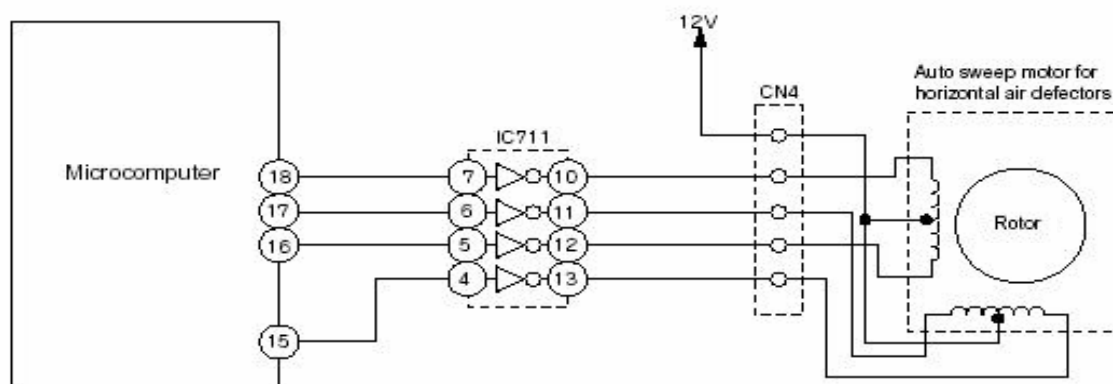
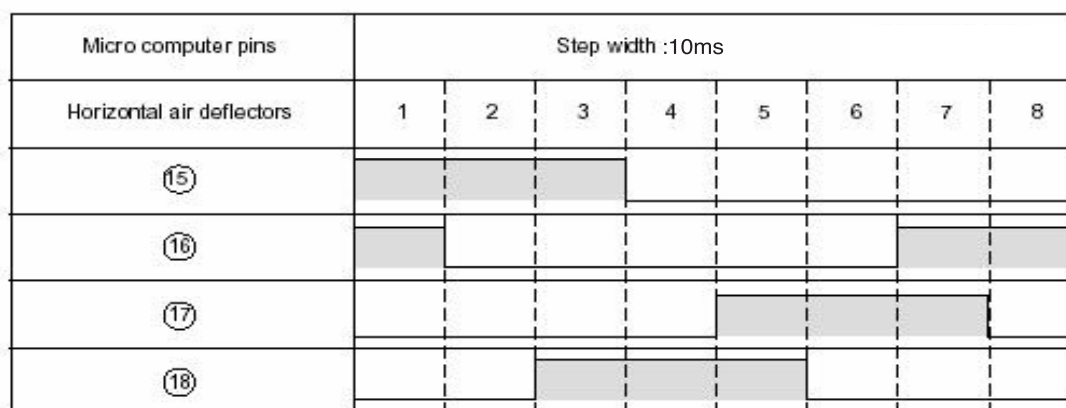

Fig.4-1
Fig.4-2 Microcomputer Output Signals
Fig. 4-1 shows the Auto sweep motor drive circuit; the signals shown in Fig.4-2 are output from pin (15) ~ (18) of microcomputer.
As the microcomputer's outputs change as shown in Fig.4-2, the coils of the auto sweep motor is excite to turn the rotor. Table 4-1 shows the rotation angle of horizontal air deflectors.